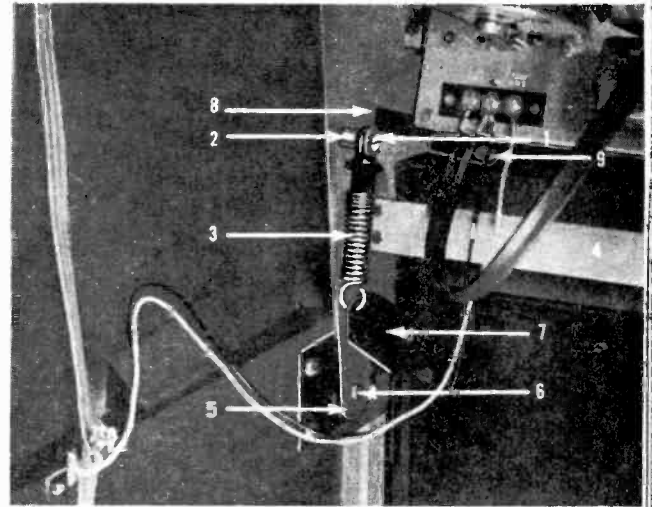

Fig. 1. Receiver Tilt-Out Mounting
Remove the screw and washer (#1 in figure 1) from both tilt-out spring studs (2), one on each side of the tilt-out assembly. Slip the tilt-out springs (3) off their respective studs. Unscrew the ends of the tie-bar (4). The tie-bar then hangs free on the copper braid used to bond it to the chassis.